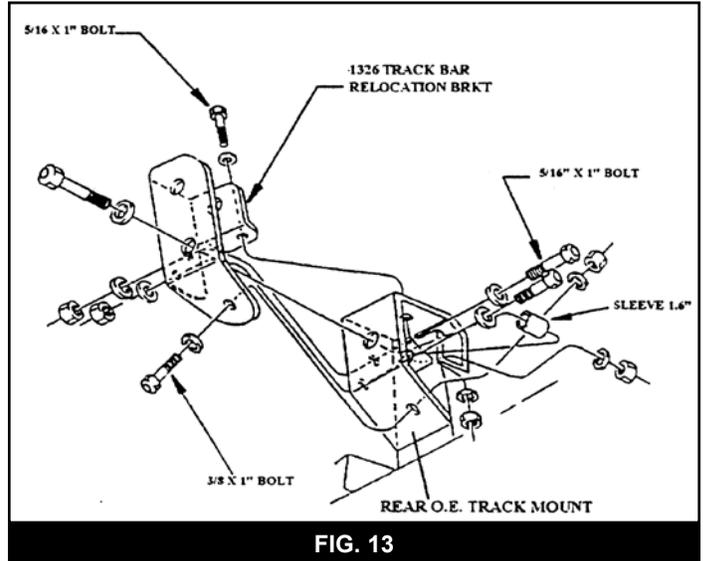

FIG. 13
13. Position the supplied track bar relocation bracket (01326) on the original track bar axle mount (Fig 12). Install the supplied 1.600" long sleeve (6-1) in the original track bar mounting point (Fig 13). Install a provided 12mm x 80mm bolt and 7/16" washer (BP 711) through the supplied bracket, OE mount, sleeve and out through the other side of the mount. Loosely fasten the bolt with the OE nut tab. Note: If the OE nut tab is damaged, use a provided 12mm nut (BP 711).
14. With the new bracket in place, drill out the remaining four holes using the bracket as a template. The lowest hole is 3/8" while the remaining two outside holes and one upper hole are 5/16". Fasten the bracket with the supplied 3/8" x 1" bolt, nut and 5/16" USS washers (BP 711) in the lower hole and the 5/16" x 1" bolts, nuts and washers (BP 711) in the remaining holes (Fig 13). Torque the 3/8" hardware to 30 ft-lbs and the 5/16" hardware to 22 ft-lbs.